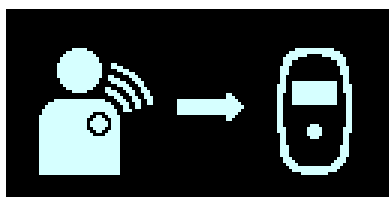

Figure 36: IPG Data Download Screen
4. The charging process begins with a display of the IPG Data Download and IPG Data Download Success screens. **See Figures 36 and 37.**